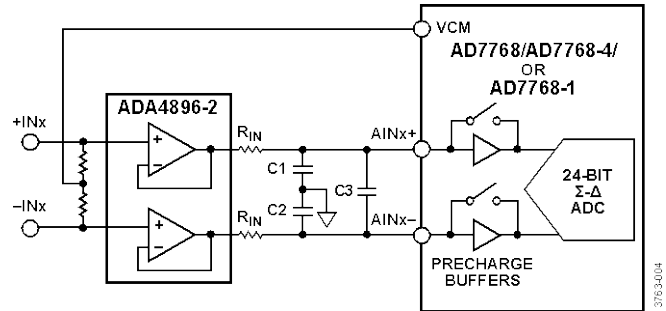

Figure 6. Typical Input Structure for an RC Network
There is a resistor-capacitor (RC) network between the amplifier output and the ADC input. Figure 6 shows a typical RC network used for the AD7768/AD7768-4 and the AD7768-1 for most amplifier pairings. The RC network performs a variety of tasks. C1 and C2 are charge reservoirs to the ADC and provide the ADC with fast charge current to the sampling capacitors.